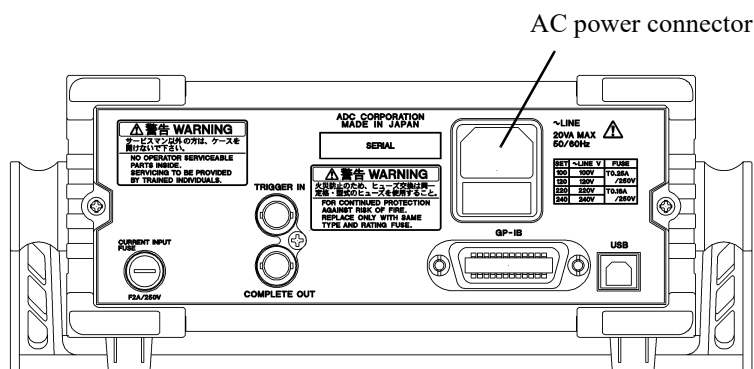

Figure 3-5 Connecting the Power Cable
2. Connect the AC power connector on the rear panel of this instrument to a three-pin power outlet that has a ground terminal by using the included power cable (See Figure 3-5).